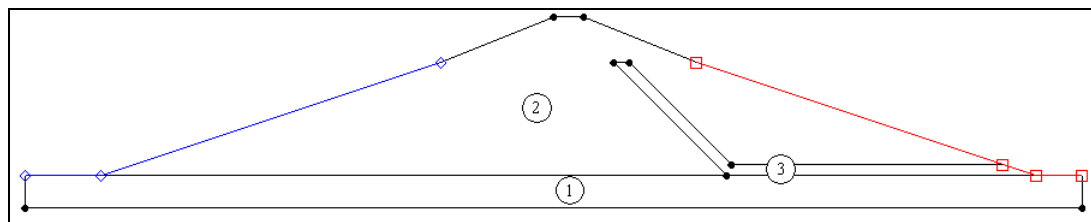

Figure 9. Polygons and their material IDs.
2. Double-click on the embankment which is zone 2 in Figure 9 below.